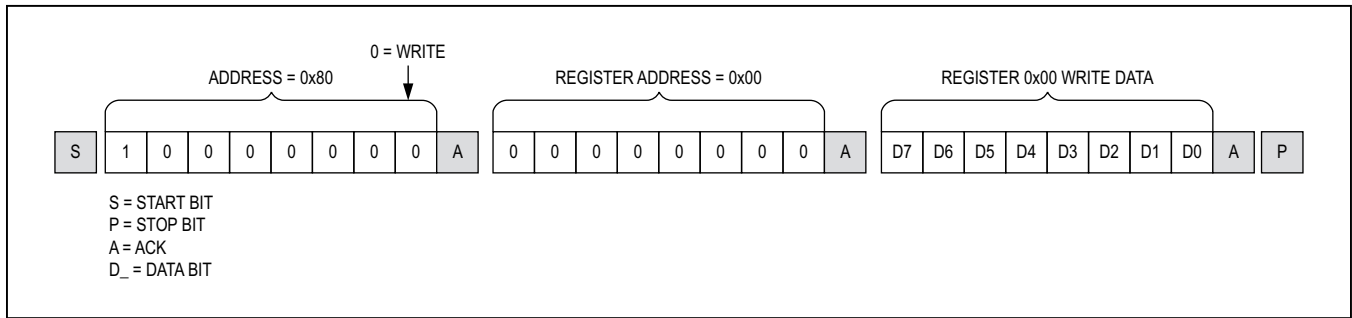
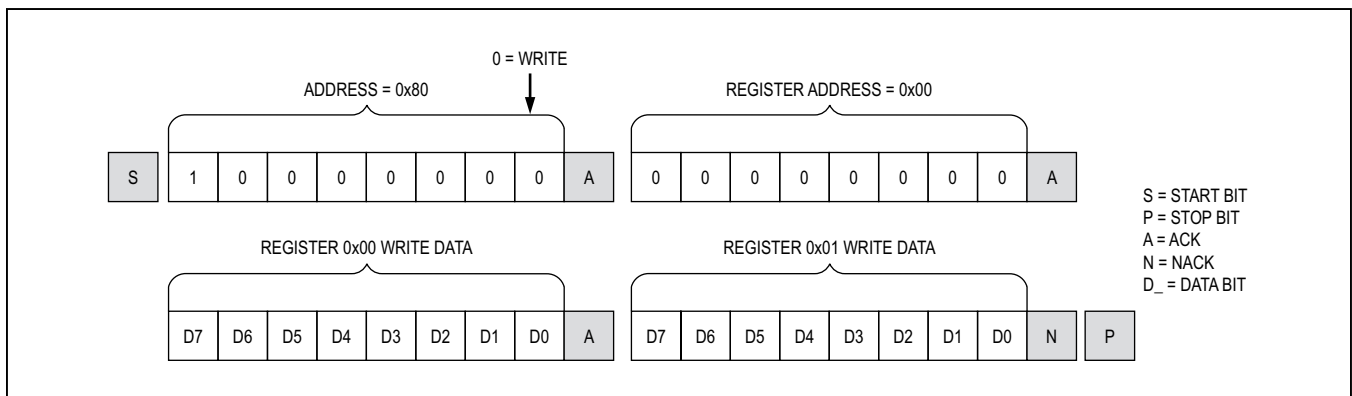

Figure 33. Format for I2C Write
Figure 34. Format for Write to Multiple Registers
Writes to the serializers comprise the transmission of the slave address with the R/W bit set to zero, followed by at least one byte of information. The first byte of information is the register address or command byte. The register address determines which register of the device is to be written by the next byte, if received. If a STOP (P) condition is detected after the register address is received, the device takes no further action beyond storing the register address (Figure 33). Any bytes received after the register address are data bytes. The first data byte goes into the register selected by the register address, and subsequent data bytes go into subsequent registers (Figure 34). If multiple data bytes are transmitted before a STOP condition, these bytes are stored in subsequent registers because the register addresses autoincrements.